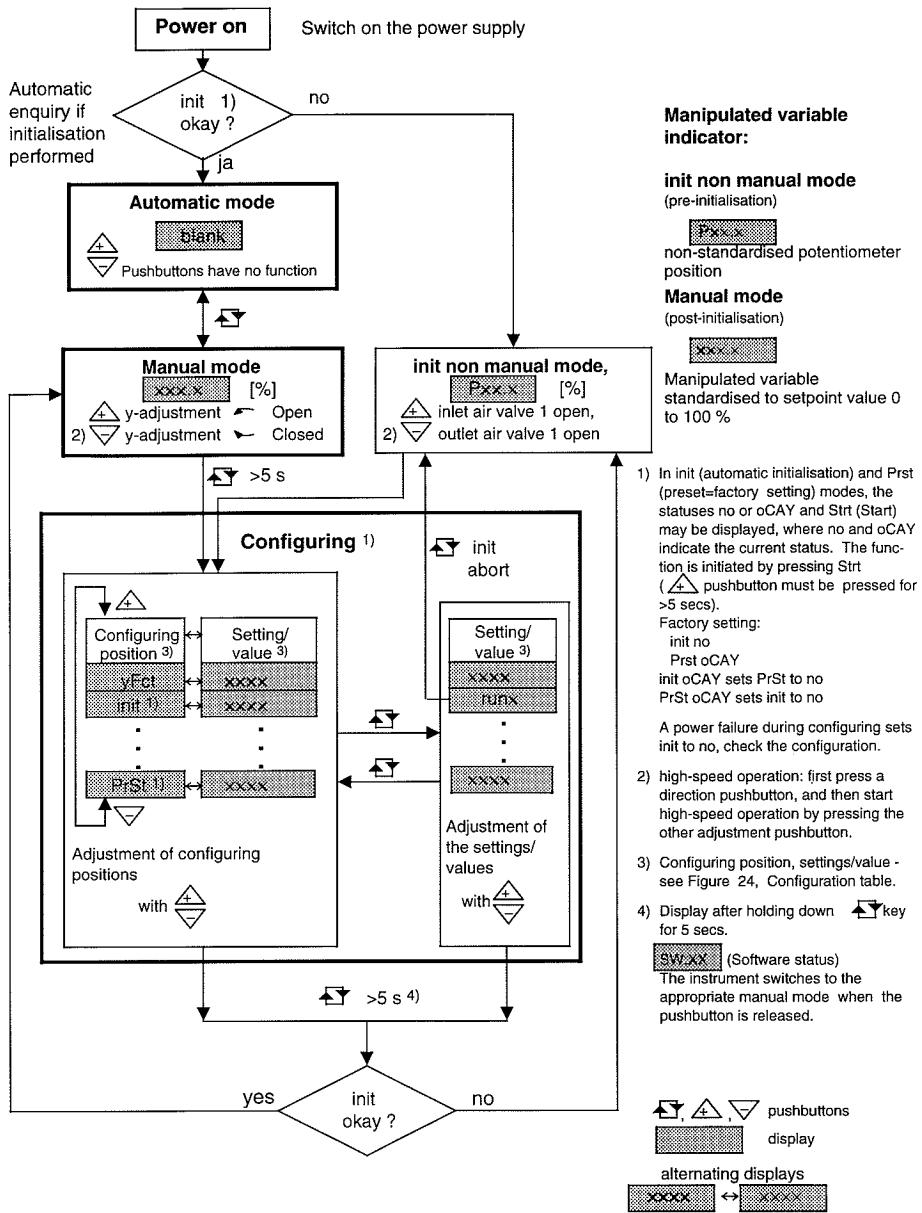

Figure 21 Operating levels: automatic, manual and configuring
Pneumatic power may only be provided for the initialisation phase if an electrical supply is also present. Make sure as well that the positioner is in init non manual mode (factory setting, see Figure 21) (Display P xx.x see Figure 21), as only in this mode will the valves not be controlled, neither will the actuator perform any movements.
If pneumatic power is present but no electrical supply, then the actuator will go into the safety position. If pneumatic power is present and the electrical supply is connected later once the instrument has been initialised (init oCAY, see Figure 21), the positioner will operate in automatic mode. This can lead to uncontrolled movements, as the lever mechanisms would not yet have been adjusted to suit the actuator.
- If the display is blank or shows xxx.x when the power supply is on, execute the PrSt function (see Figure 21) and switch to init non manual mode.
In emergencies, initialisation can be halted by pressing the pushbutton. The positioner then goes into init non manual mode and the actuator stops (Figure 21).